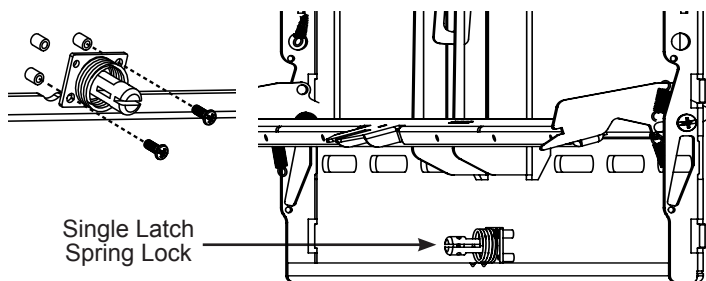

Figure 1
- 1) Push evenly in the front of the LMVSP to release the single latch spring lock(Figure 1).